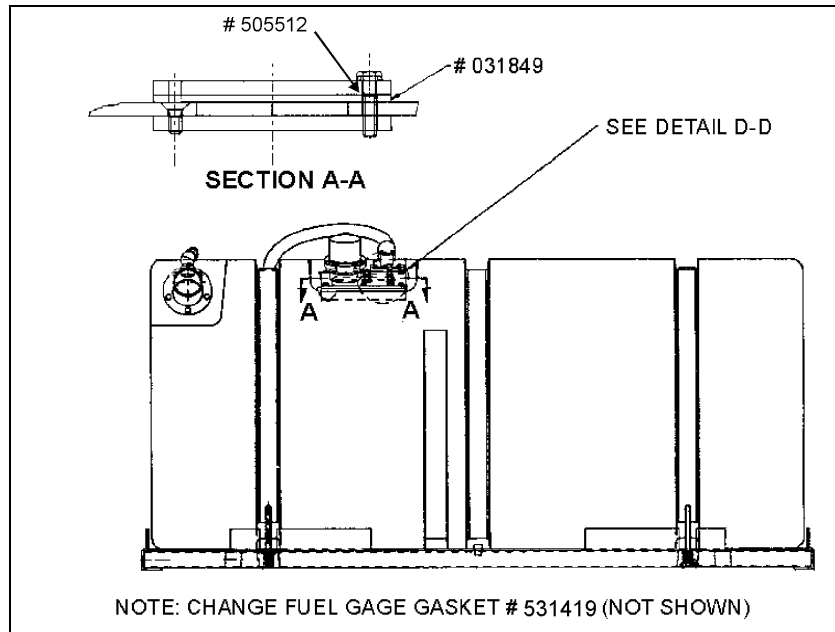

FIGURE 6
- Using new seal and new copper washers (Prévost #031849 and #505512), install new fuel tank control panel (Fig. 6).